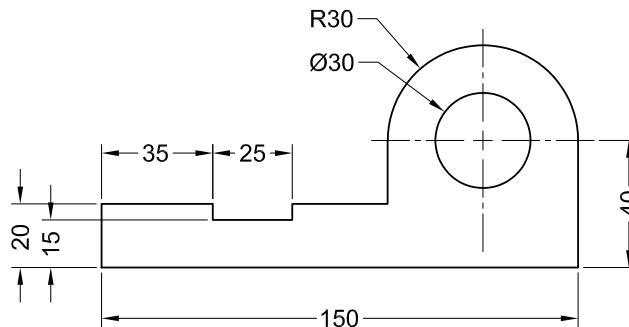

Figure 19-40 Sketch for Tutorial 1
In this tutorial, you will open the sketch created in Tutorial 3 of Chapter 2, add dimensions to the sketch, as shown in Figure 19-40, and extrude the sketch up to a depth of **50** mm. Then, you will add equations to the dimensions of the sketch. The dimension **150** will be the driving dimension. While adding equations, you can change the vertical dimensions **20** and **40** to **50** and **50**, respectively, for the convenience of calculation.
2. Add relations and dimensions to fully define the sketch, refer to Figure 19-40.